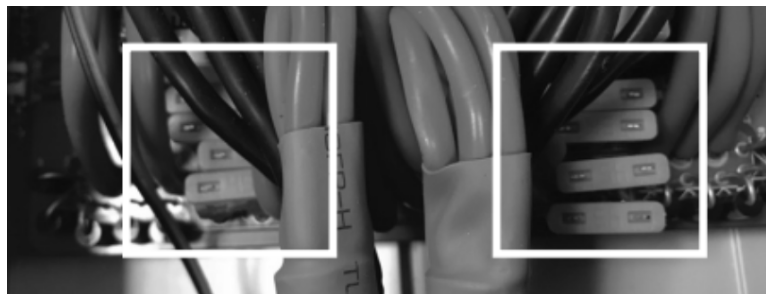

Fig. 1
2. Locate the fuses as shown in fig. 1 above. Use a suitable pair of tweezers to take the fuse out so you can check/replace as necessary. Please note, you can check the fuse size when you take out the fuse.